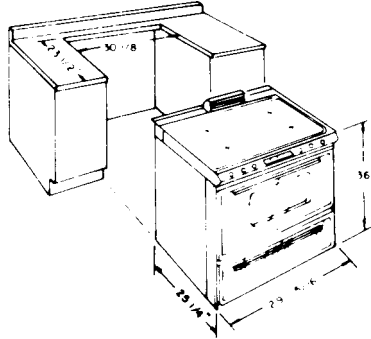

Figure 11
- A. Cabinet cutout must be prepared as shown in Figure 11.
Remove the cap with the screwdriver slot and replace upside down. This plug will then have the marking "LPG10". Be sure not to disturb or remove the spring beneath this plug. See Figure 11 for correct position of plug.